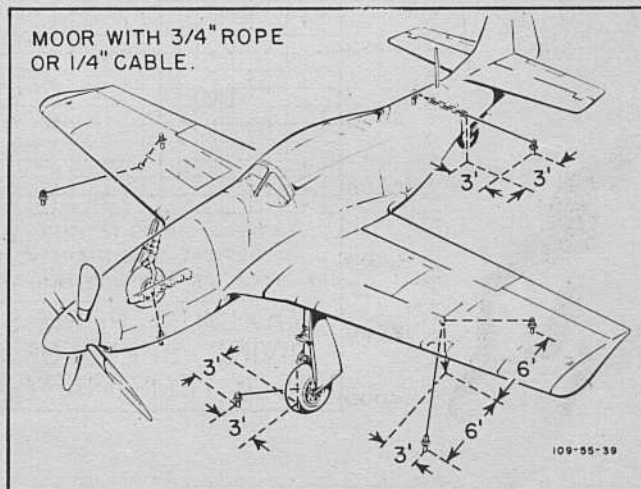

Figure 13—Mooring Airplane
- d. Moor airplane as shown in figure 13.